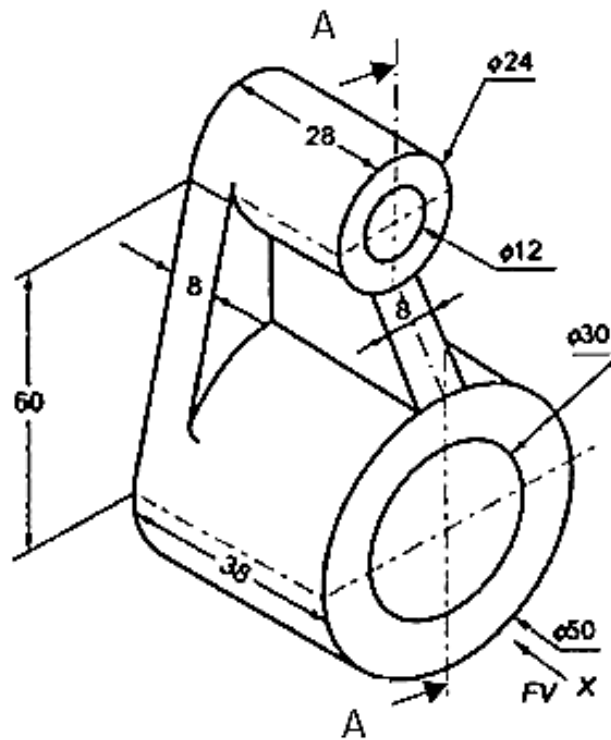

Figure 5
2. Draw the following View for **Figure 5**